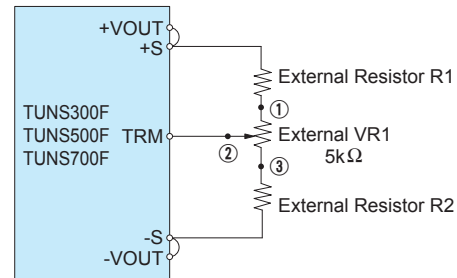

Fig. 4.4 Connecting External Devices (TUNS300F/TUNS500F/TUNS700F)
■ Output voltage can be adjusted by connecting an external potentiometer (VR1) and resistors (R1 and R2) as shown in Fig. 4.4.